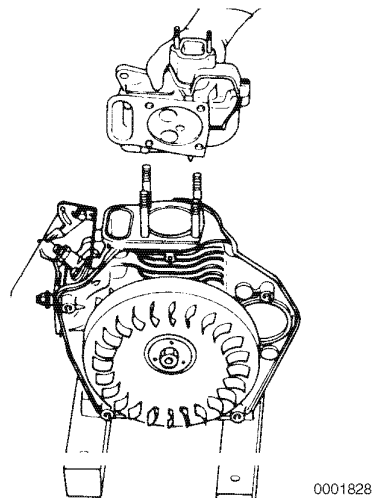

Figure 8-3
6. Remove the two cylinder head nuts and two bolts and remove the cylinder head (**Figure 8-3**). Discard the cylinder head gasket. Place the cylinder head on a protected work surface to prevent damage to the combustion surface.